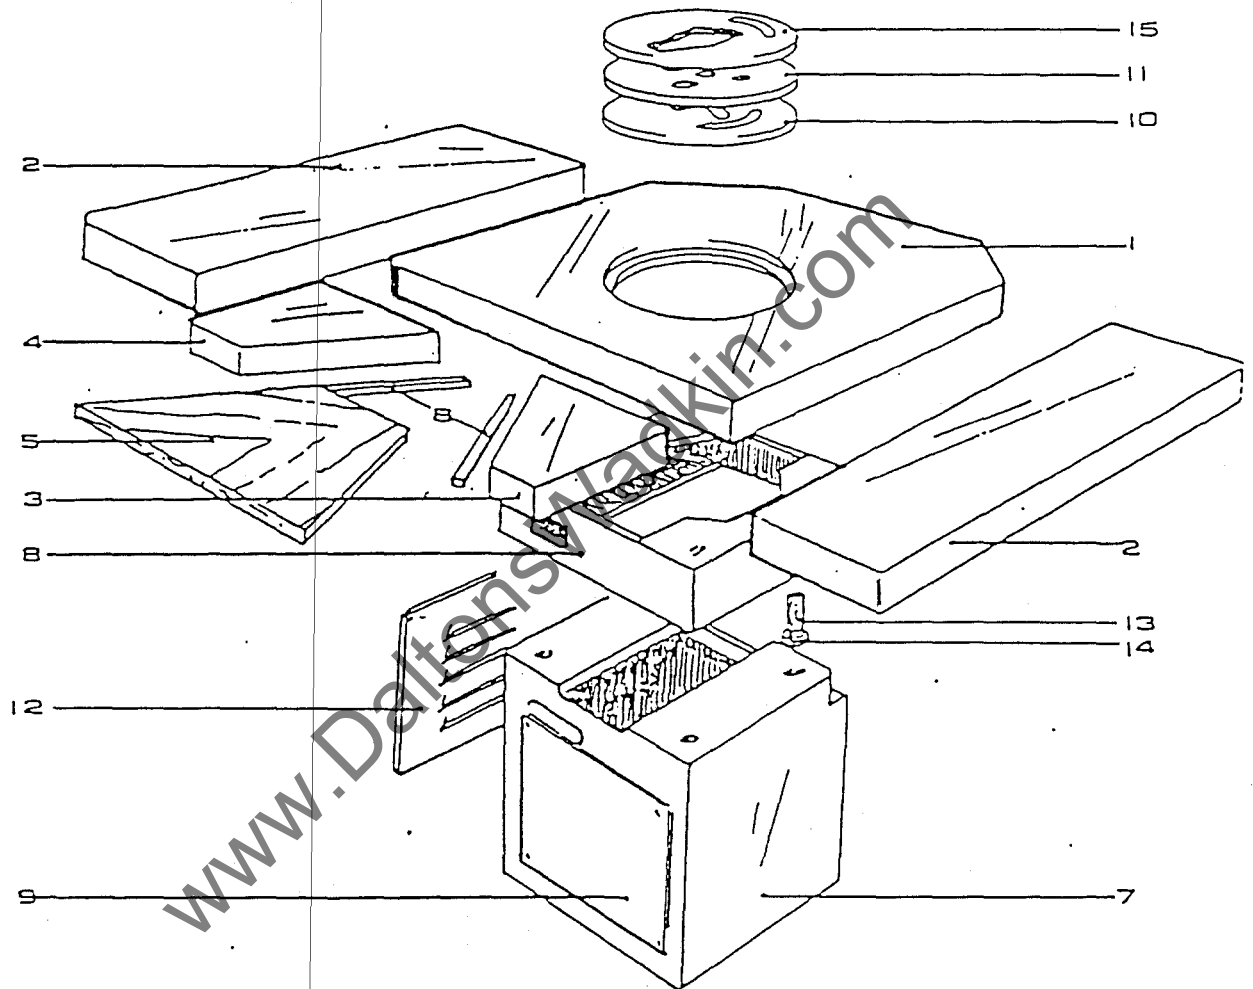

FIG. 28 AUTO FEED TABLE MACHINE UX1/A
8.7 AUTOMATIC FEED TABLE PARTS LIST MACHINE UX/1/A (See Figure 28)